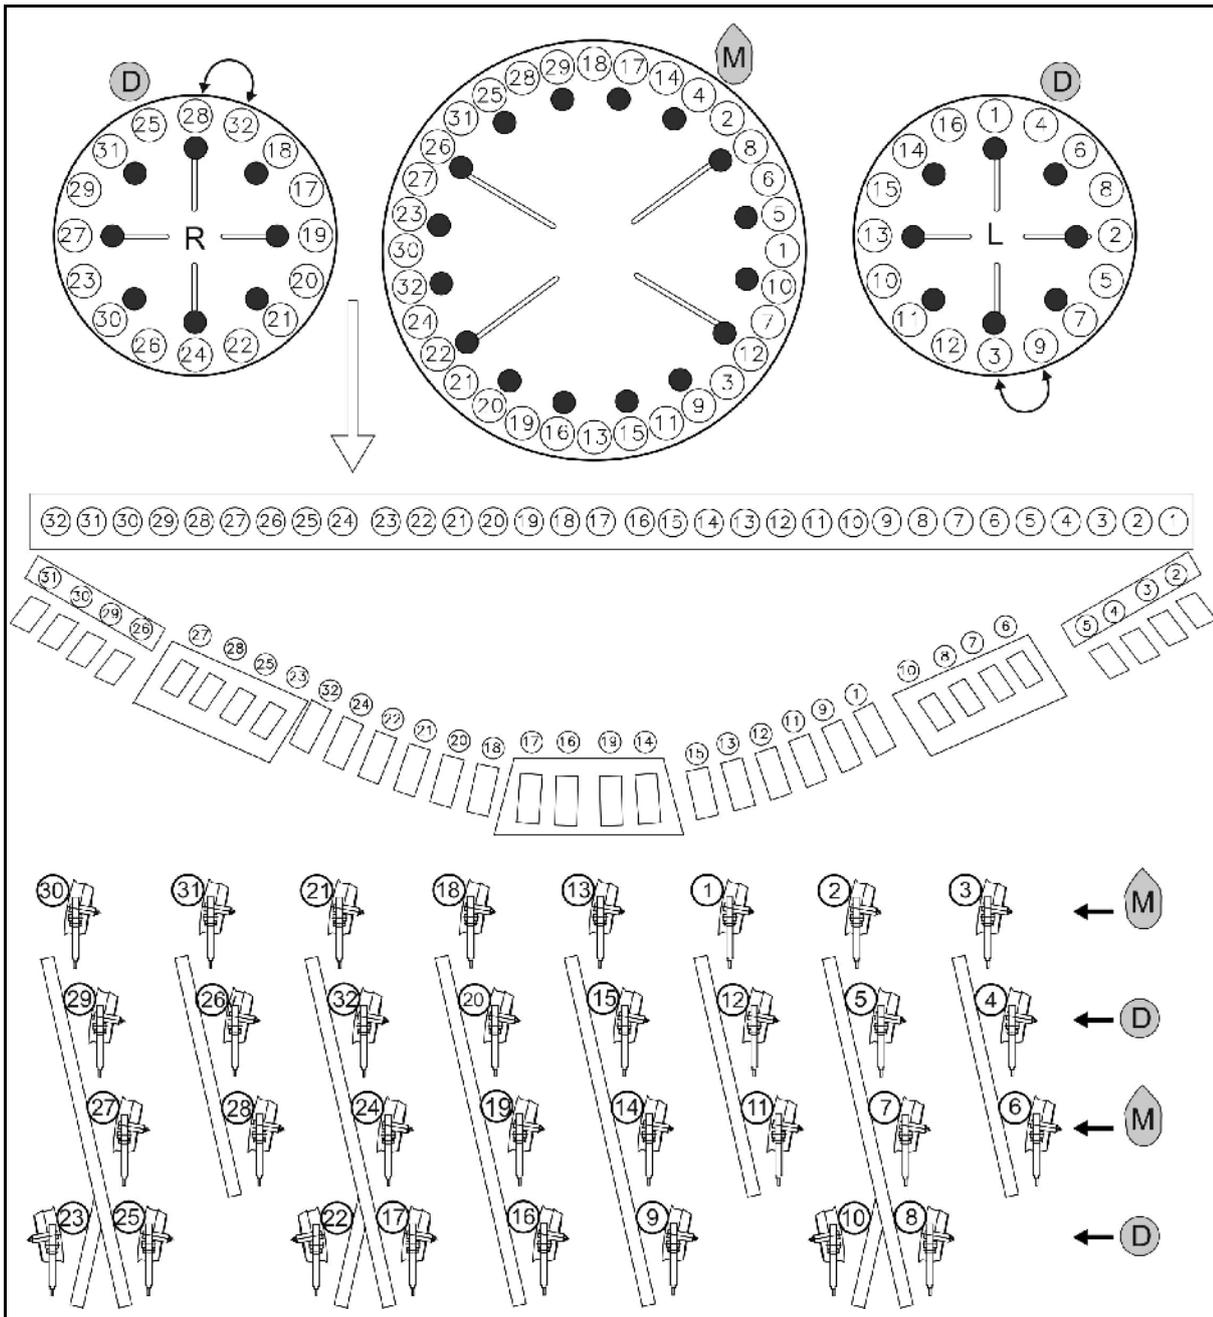

Fig. 50
- Maize ^M: Install the sealing plugs according to Fig. 50.
- Fertiliser ^D: Install the sealing plugs according to Fig. 50.